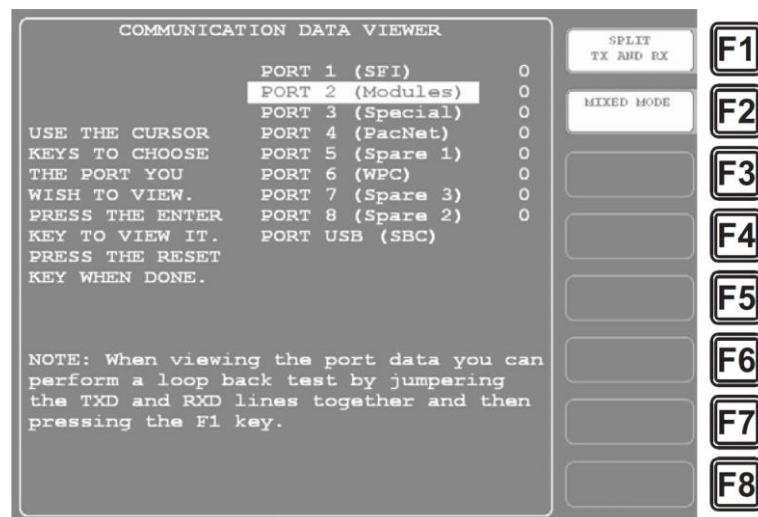

Figure 3-11. Communication Data Viewer Screen
2. Select “COMMUNICATIONS” on the Diagnostic Menu to display the Communication Data Viewer screen, shown in Figure 3-11.